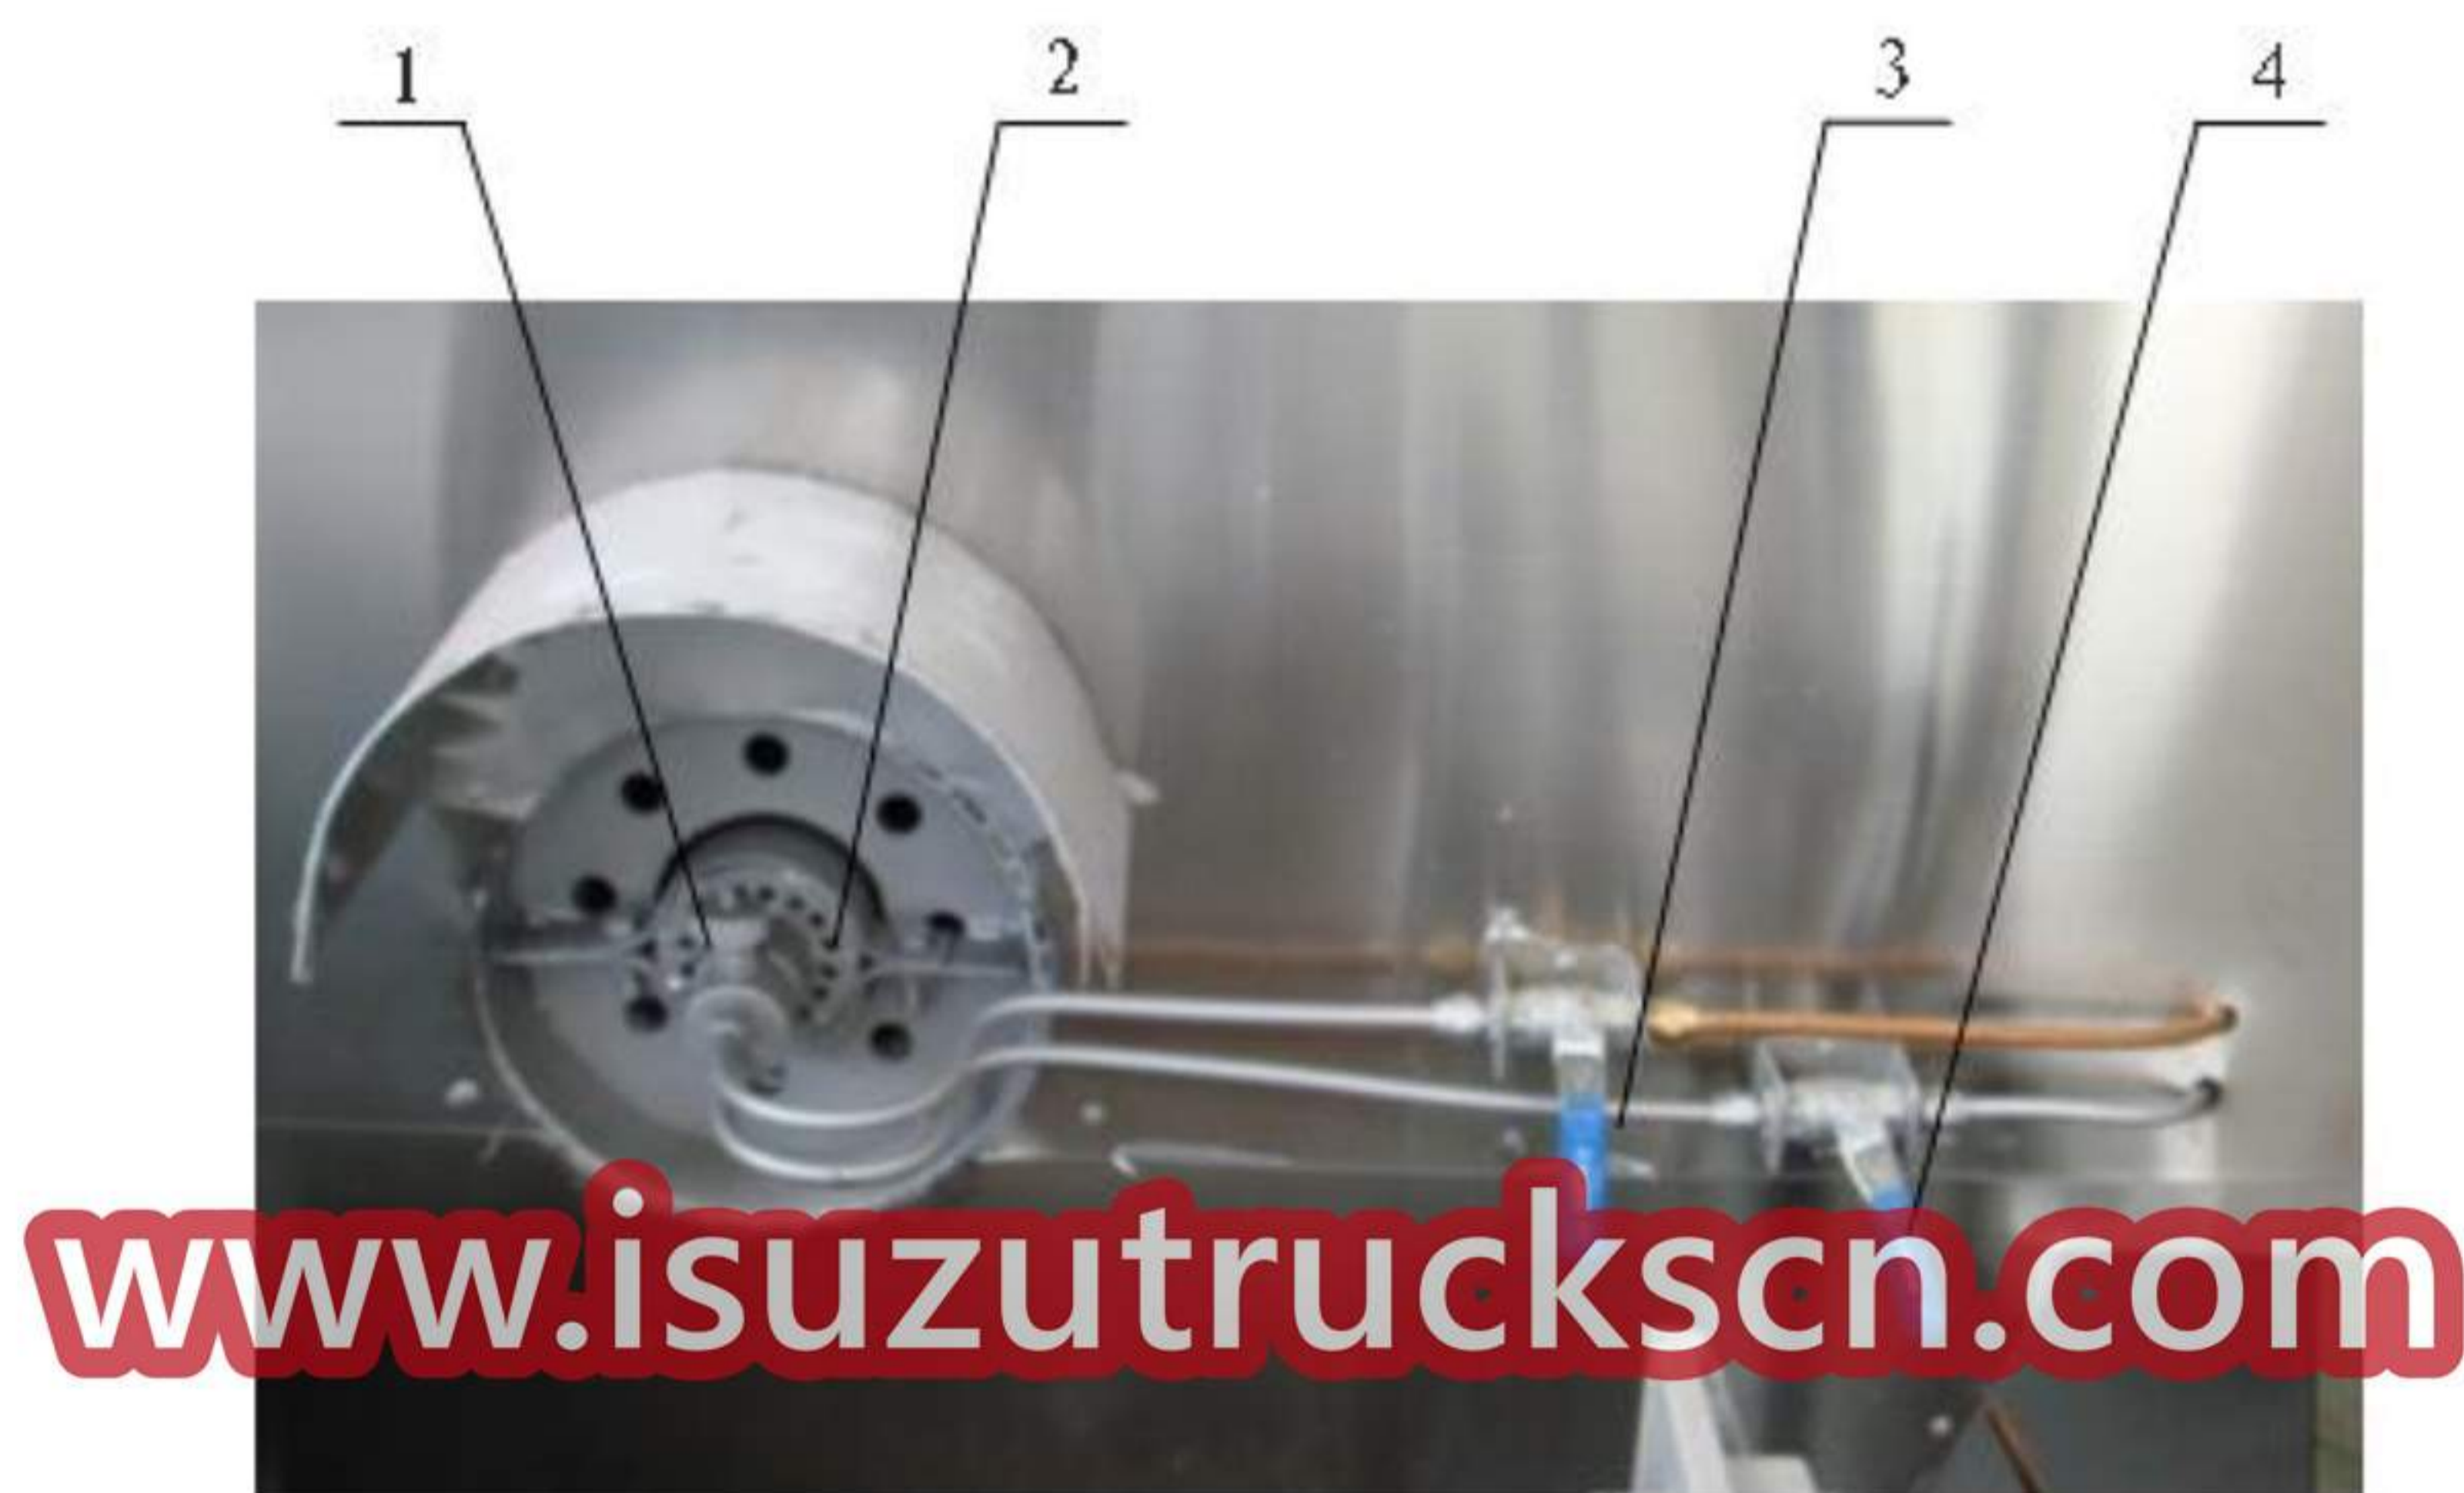

Fig. 10 Asphalt heater
4. Loosen the air knob on the burner (as shown in Fig. 10), and open the fuel valve. After that, open the air valve, and apply the fire near the burner to ignite when white smoke is found.